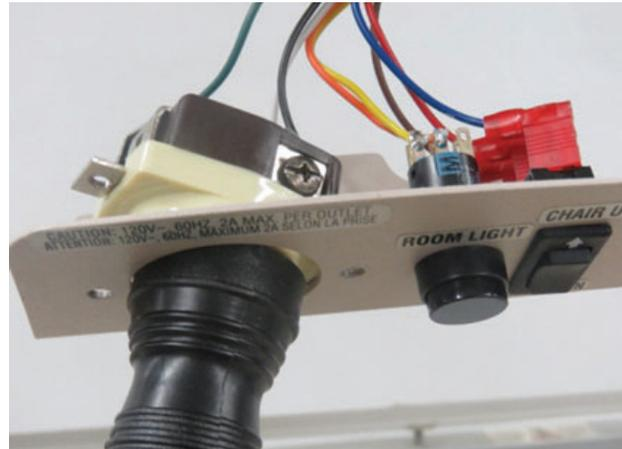

FIGURE 11
4.1.3. Plug in the Accessory. You will have to hold the outlet while pressing in the outlet. (See Figure 11)